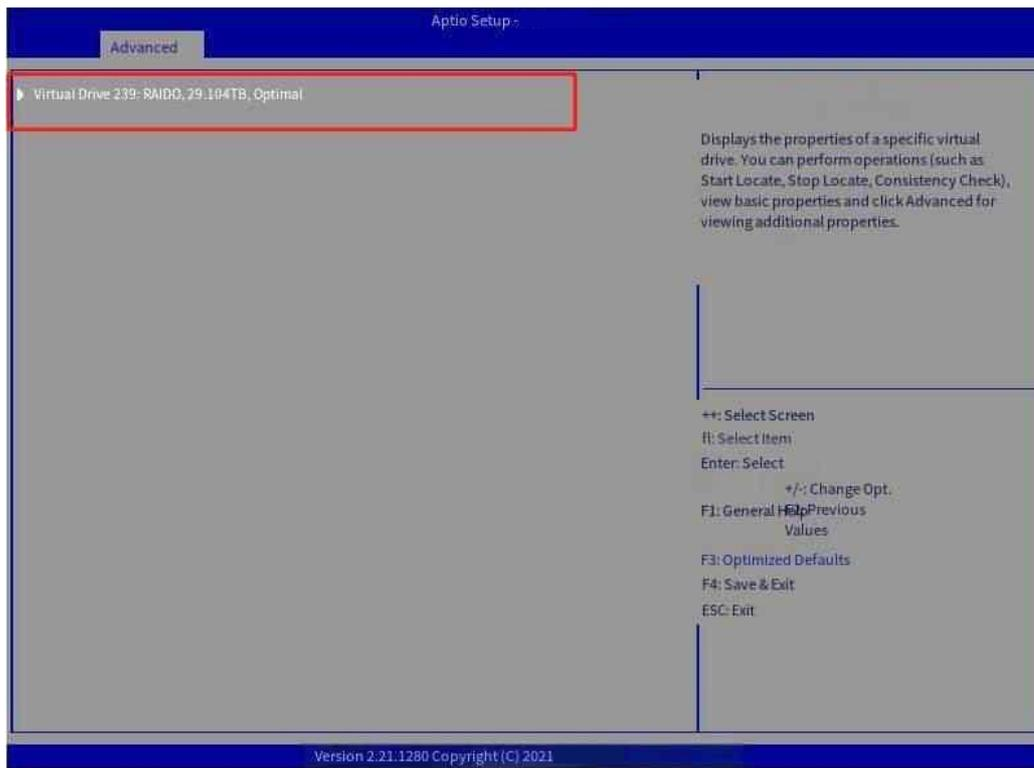

Figure 7-11 Viewing RAID information
Step 5 On the Virtual Drive Management screen, you can view the RAID array created under the controller, as shown in Figure 7-11.